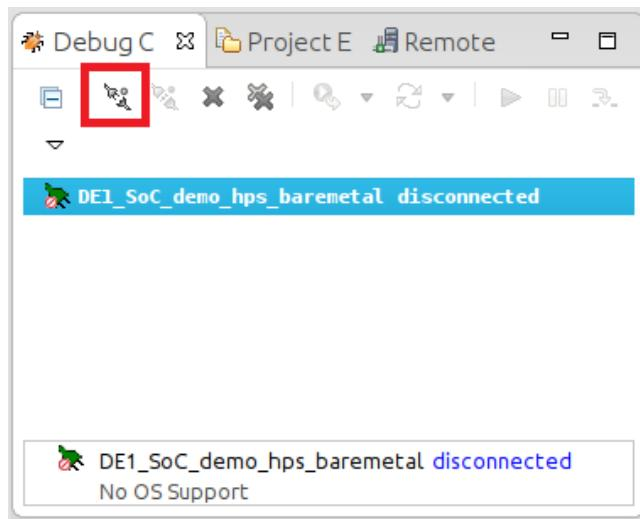

Figure 8-38. Debug Control View
21. In the “Debug Control” view, click on the “DE1_SoC_demo_hps_baremetal” entry, then click on the “Connect to Target” button, as shown on Figure 8-38. Our debug script will load and execute the preloader, then it will load and wait at our application's “main()” function.